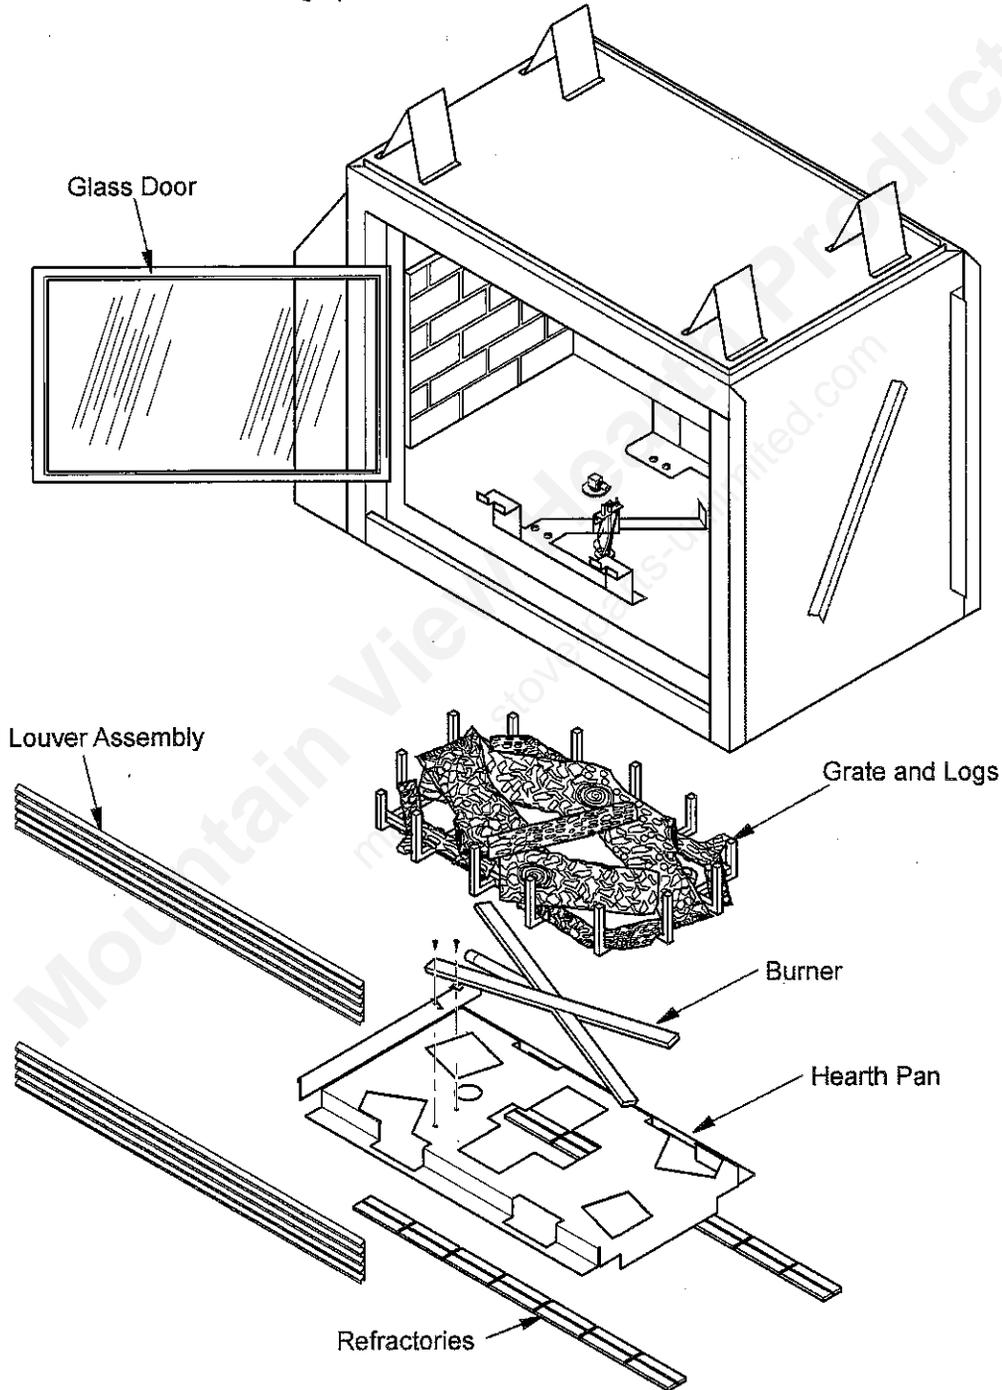

Figure 3 - Disassembly of Hearth System
1. Do not remove logs from grate. Lift grate off stands. Place entire assembly outside of unit for ease of reassembly (See Figure 3).
2. Remove (2) 5/16" hex screws holding burner in place. Slide burner forward off of orifice mount while lifting up.